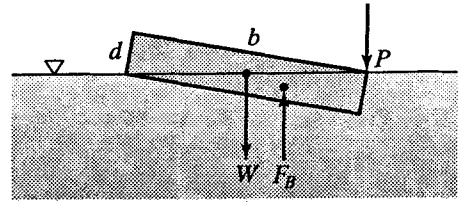

Figure P3.28
3.28 A rectangular block of uniform material and length $L = 3$ ft, width $b = 1.25$ ft, and depth $d = 0.20$ ft, is floating in a liquid. It assumes the position shown in Fig. P3.28 when a uniform vertical load of 1.30 lb/ft is applied at P . (a) Find the weight of the block. (b) If the load is suddenly removed, what is the righting moment before the block starts to move? (Hint: Refer also to Fig. 3.19.)